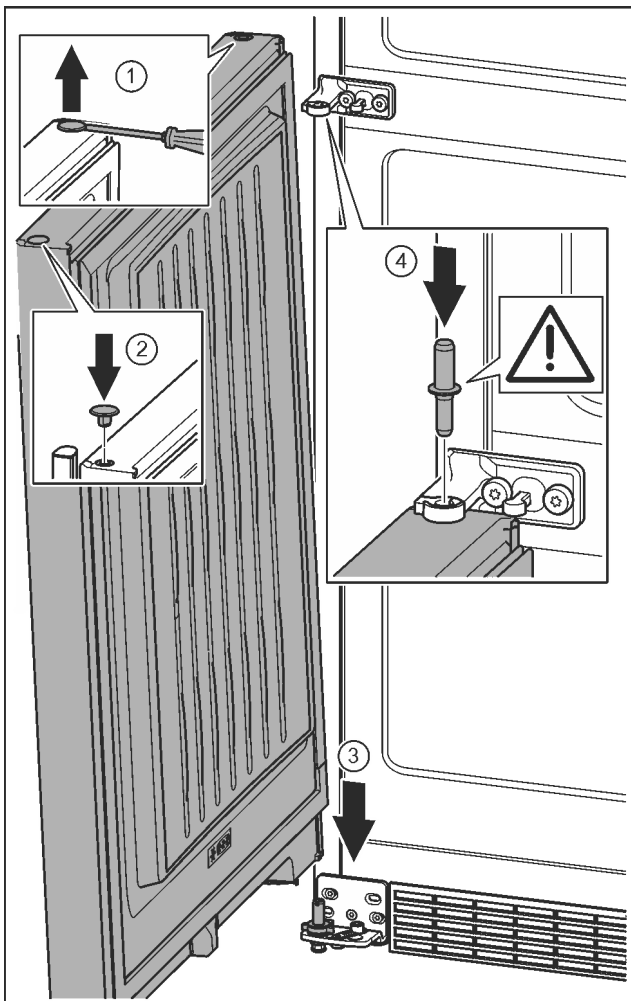

Fig. 22
- ▶ Carefully lift up the plugs with a slotted screwdriver and remove them. Fig. 22 (1)
- ▶ Insert the plugs again on the other side of the door. Fig. 22 (2)
- ▶ Position the door from above onto the lower bearing pins. Fig. 22 (3)
- ▶ Insert the centre bearing pin through the centre bearing bracket into the lower door. Make sure that the catch mechanism is pointing to the rear. Fig. 22 (4)